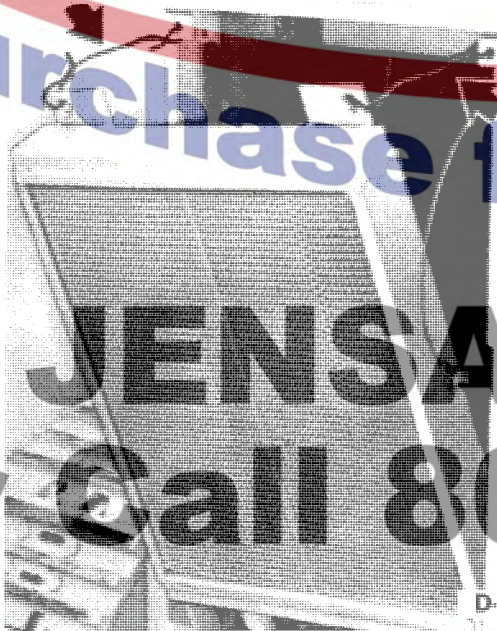

FIG. 5 — Oil Cooler
6. Loosen the drive train oil cooler lower mounting bolts. Remove the top mounting bolts. Secure the top brackets to the door guard bracket (Fig. 5) leaving slack in the cable support cable. Remove the bottom mounting bolts and spacer and let the cooler hang in place.